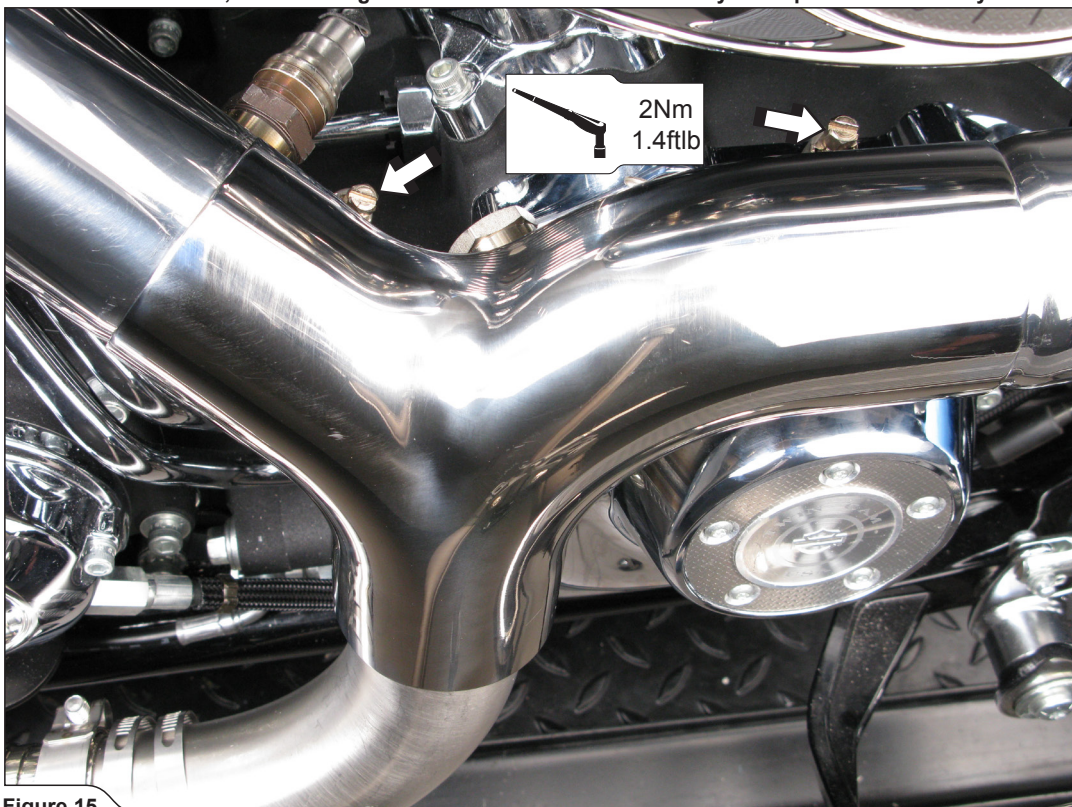

Figure 15
14. Correctly attach the heat shield onto the collector and align it in respect to the pipes and headers' heat shields. Tighten the two upper tape clamps (mark 32-50), slide the lower tape clamp (mark 40-60) over the lower heat shield's bracket and tighten the clamp (Figure 15, 16).